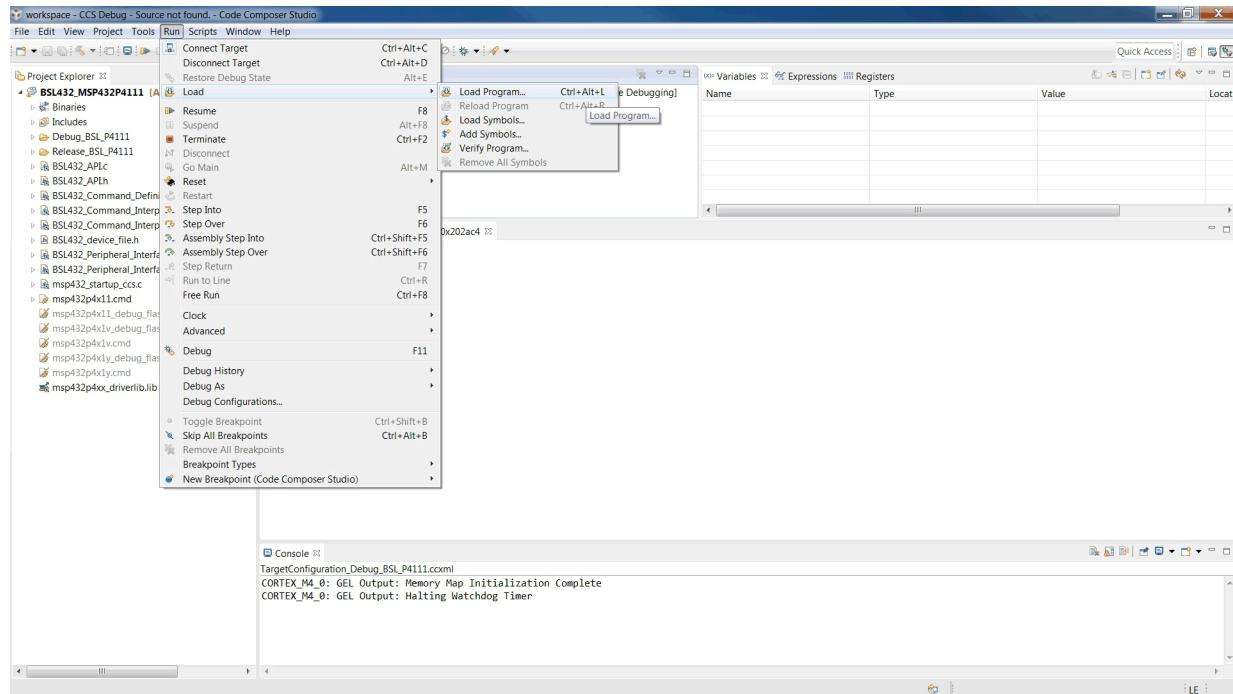

Figure 16. Load Program
7. Select the BSL firmware image. Click *Run* → *Load* → *Load Program* (see Figure 16).